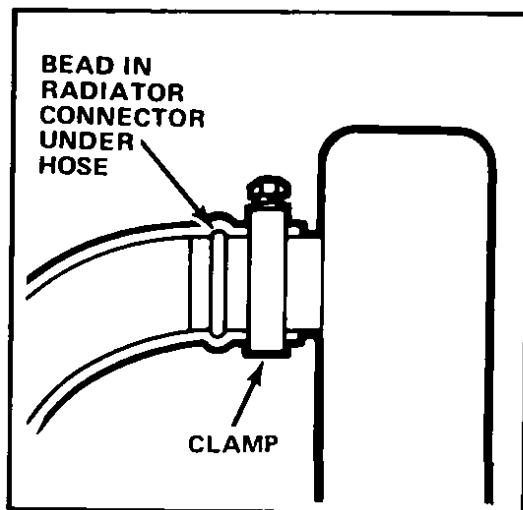

Fig 14 Installing radiator hose
- 5 When tightening a clamp, be sure the clamp is positioned beyond the bead and in the center of the clamping surface of the connector, Fig 14